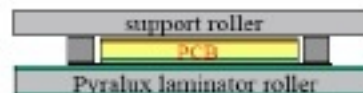

Figure 4.12 : « Stretched mesh » procedure for mesh integration.
At step (4) of the integration, the last 64 μm pyralux layer is laminated on top of the woven micromesh, with the mechanical Frame on which it was stretched (**figure 4.12**).